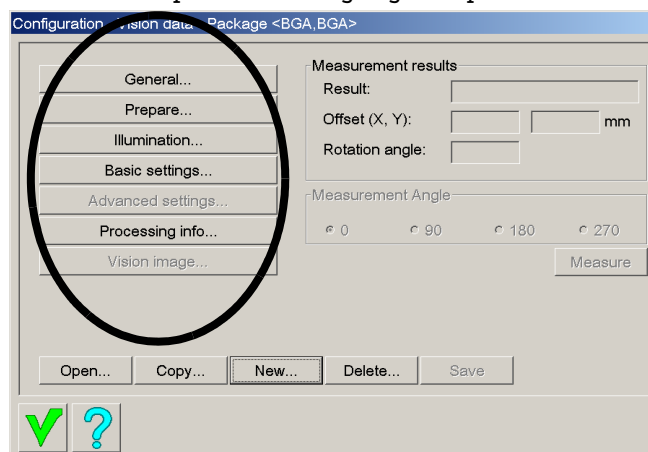

Figure 22 Component, configuration
For each component the highlighted parameters can be filled in (see Figure 22).
■ Select 'General' (see Figure 22).
■ Select 'Prepare' (see Figure 22).
- Select 'Basic settings,' (see Figure 22).